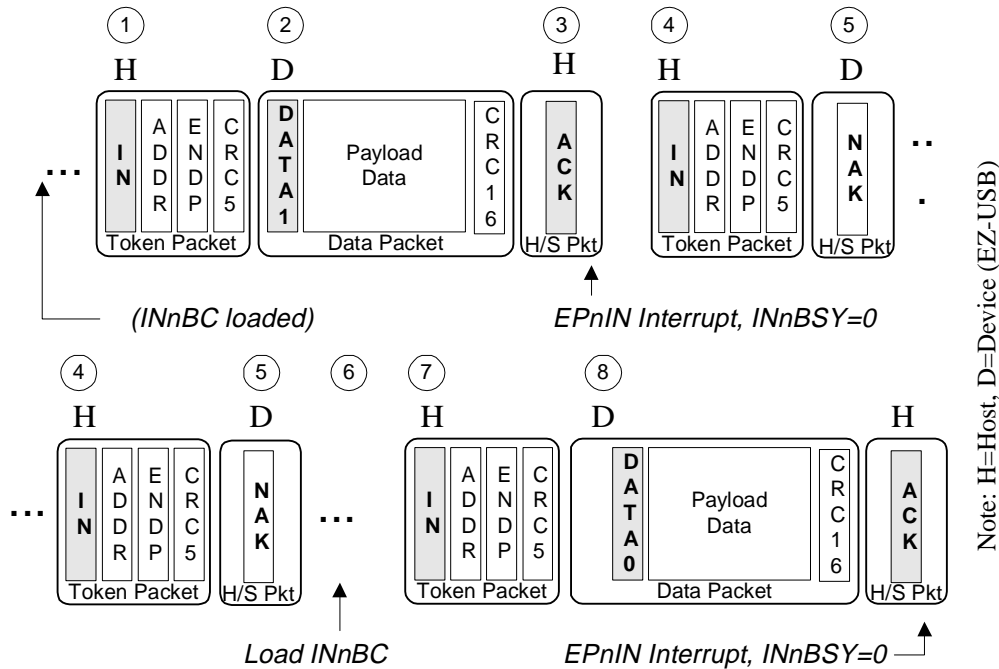

Figure 6-3. Anatomy of a Bulk IN Transfer
In the bulk *IN* transfer illustrated in Figure 6-3, the 8051 has previously loaded an endpoint buffer with a data packet, and then loaded the endpoint's byte count register with the number of bytes in the packet to arm the next *IN* transfer. This sets the endpoint's *BUSY* Bit. The host issues an *IN* token (1), to which the USB core responds by transmitting the data in the *IN* endpoint buffer (2). When the host issues an *ACK* (3), indicating that the data has been received error-free, the USB core clears the endpoint's *BUSY* Bit and sets its interrupt request bit. This notifies the 8051 that the endpoint buffer is empty. If this is a multi-packet transfer, the host then issues another *IN* token to get the next packet.